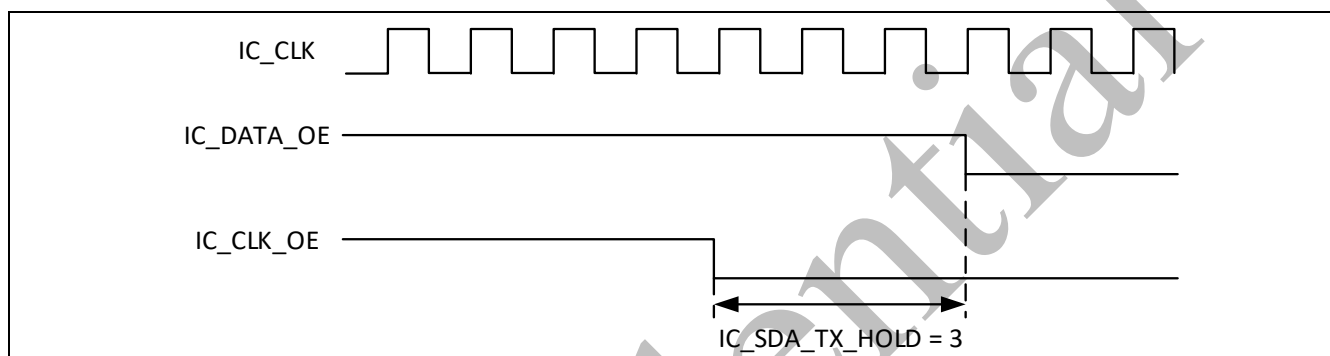

Figure 3-79 I2C Master Implementing tHD:I2C_DATA with SDA_TX_HTLR = 3
- Figure 3-79 shows the tHD:I2C_DATA timing generated by the I2C operating in Master Mode when SDA_TX_HTLR = 3.